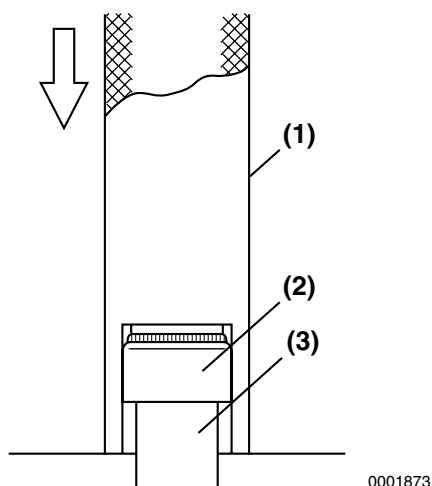

Figure 6-28
1. Oil the lip of the valve stem seal (**Figure 6-28, (2)**). Using the valve stem seal installation tool (**Figure 6-28, (1)**), install a new valve stem seal on each of the valve guides (**Figure 6-28, (3)**).